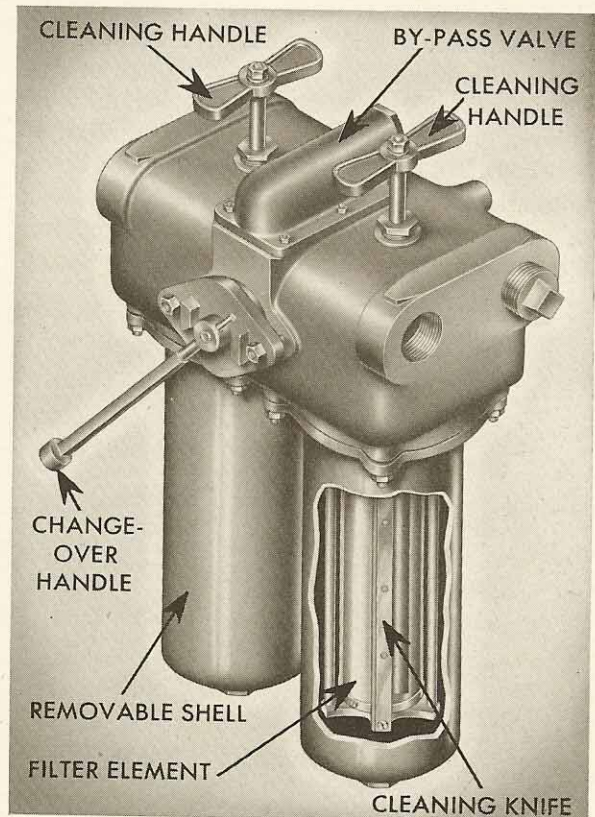

FIGURE 2-6
8. OIL FILTER: The discharge from the high-pressure pump and pressure-regulating valve is not piped directly to the engine bearings but is first put through two auxiliaries. The one to which the oil goes first is the oil filter, shown in Figure 2-6.